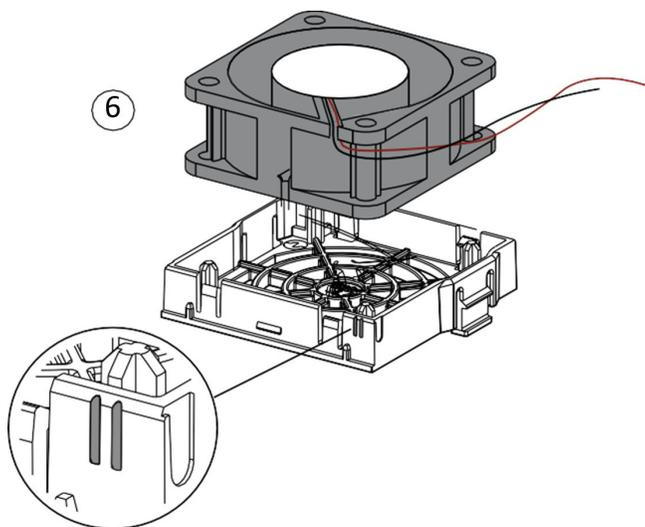

Fig. 52 — Connect Fan To Power
6. Install the new fan into the fan cover. Make sure that the air flow is in the correct direction. The air flows in from the bottom of the drive and out from the top of the drive. As shown in the following figure, the side with the fan power cable is aligned to the double bars sign on the fan cover (see Fig. 52).